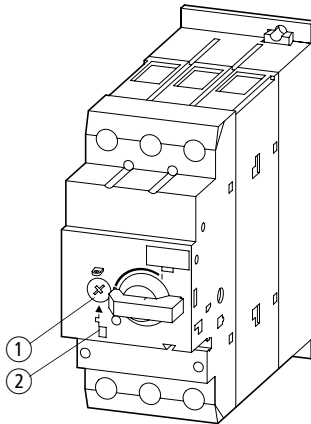

Figure 1: PKZM4 motor-protective circuit-breaker
The rated motor current is set on the PKZM4 units by means of a current dial ① (→ fig. 1, Page 26).
Proper functioning of the circuit-breaker can be verified by means of the testing feature ② (→ fig. 1, Page 26).